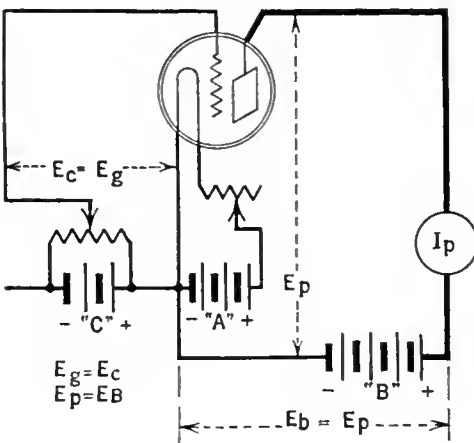
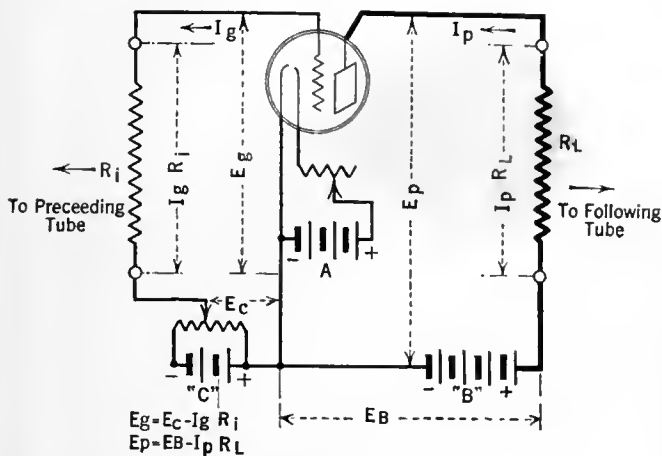
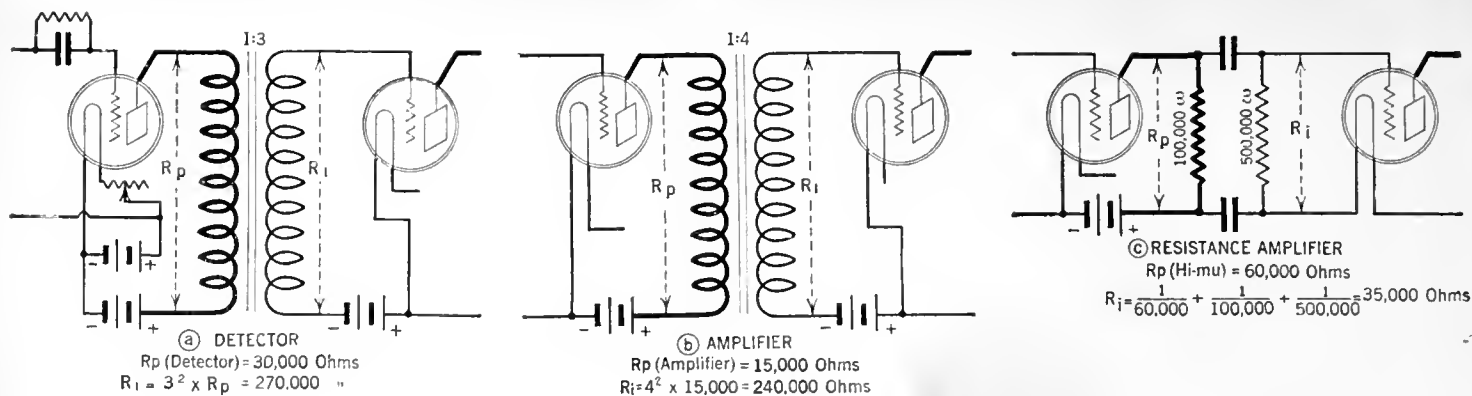
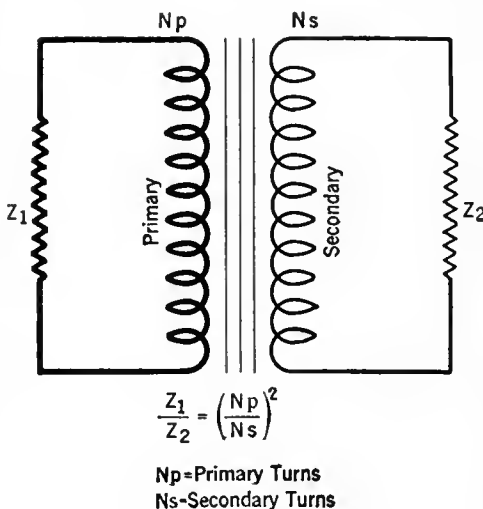

FIG. 1
FIG. 3
FIG. 4
FIG. 5
**A**SIDE from the tube and its accessory batteries, all that is necessary to measure static characteristics of tubes, which show in the form of curves the relations between grid, plate, and filament voltages and the corresponding currents, is a good voltmeter of double range, 0-10 and 0-100 volts, and a good milliammeter, and any one in his home laboratory can have many hours of enjoyment studying tubes by means of these instruments. With such apparatus diagrammatically represented in Fig. 1, let us carry out the following procedure:
Therefore, if we insert into the grid and plate circuits of the tube under test, a resistance approximating the impedance into which the tube normally looks we shall have the conditions of test more nearly like those occurring in practice. Fig. 3 contrasted with Fig. 1 shows these additions, and Fig. 4 the method of calculating the input and output resistance. The tube normally looks back into the output impedance of a similar tube which is "stepped up" by the square of the turn ratio of the connecting transformer. Fig. 5 shows how two differing impedances may be coupled together by means of a transformer. In this case  $Z_1$  may be the output impedance of a semi-power tube and  $Z_2$  the impedance of a loud speaker. If the turn ratio of the transformer obeys the formula
about 30,000 ohms—and coupled to it by means of a 3:1 ratio transformer, the tube looks back into approximately  $30,000 \times (3)^2$  or  $30,000 \times 9 = 270,000$  ohms. If the tube is the second of a two- or three-stage resistance amplifier employing high- $\mu$  tubes, the tube looks back into three impedances in parallel as shown in Fig. 4. In the case of the last tube in a set which works into the loud speaker, its output impedance will be approximately matched by the impedance of the
In Fig. 3  $R_L$  and  $R_i$  represent the combined impedance of the tube and the connecting apparatus looking away from the tube under test.
Under these conditions, shown in Fig. 3, somewhat different curves result when one plots plate current against change in grid volts. In this case the plate voltage is not the B battery voltage but is less by the drop in the load resistance, and the voltage actually applied to the grid is not the same as the C battery but is less by the drop in the input resistance—when the grid goes positive.
Consideration of the curves in Fig. 5 and those in *Popular Radio* already mentioned show that the greater the impedance in the plate circuit the straighter will be the characteristic. Some loud speakers have very little impedance at low frequencies so that the curve worked over is not straight but curved and a peculiar distortion results when bass viols, or kettle drums are played. The remedy lies in a lower impedance tube, say one of 4000 ohms, and some tube manufacturers are making preparations to supply such tubes. They will necessarily have a low amplification factor and will draw considerable plate current but will be capable of delivering considerable power. Output transformers useful in overcoming this type of distortion are manufactured by the General Radio Company, and are designed to couple low impedance speakers of the cone type to 201-A tubes and to low impedance power tubes.
and  $\frac{\mu}{\sqrt{R_p}}$  and knowing the input impedance as figured in Fig. 4 and the voltage that is being placed on the grid of an amplifier, it is a simple matter to compute the power and voltage amplification and the actual power output in watts delivered to a loud speaker. It has already been mentioned that a reasonable amount of power to require from an amplifier is .06 watts which will give a good comfortable signal from an average loud speaker of the cone type without overloading distortion.